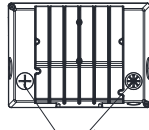

figure 9.4
Step 2: After adjusting the required control function (figure 9.3), tighten the metal plug and the plastic plug clockwise. (figure 9.4)